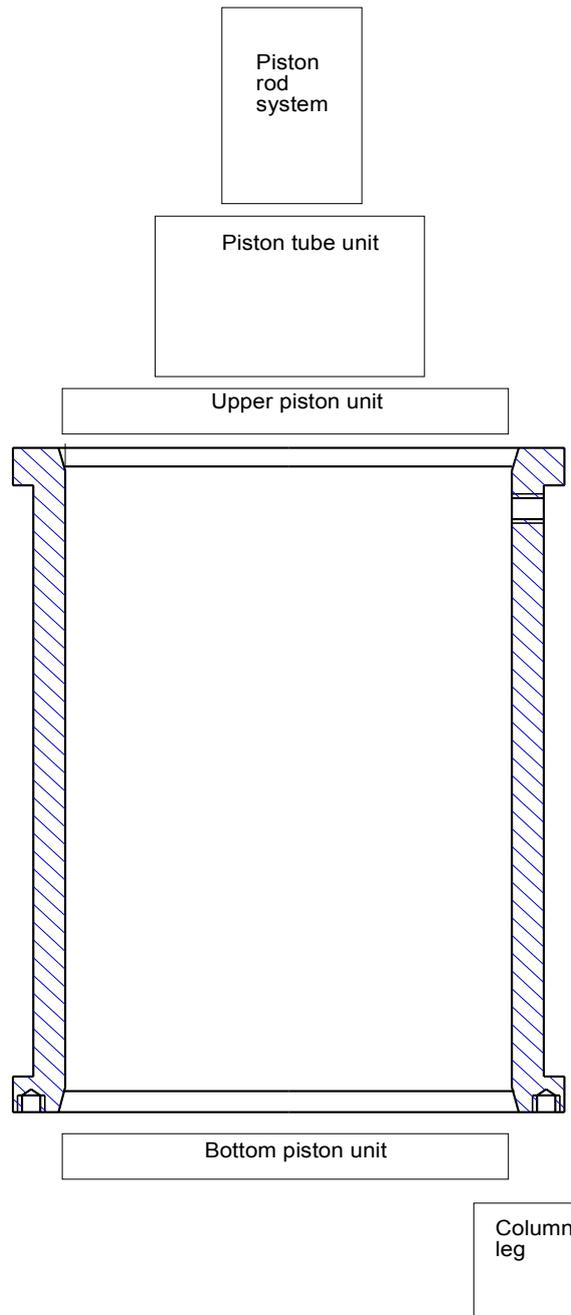

Fig. 1 Column tube with units
The **MAGic 5x2_400 LH** column consists of tube (1), I.D. 396 mm made of 316L stainless steel and several units (see Fig. 1).